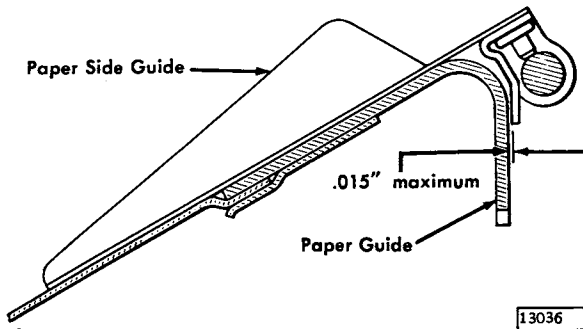

Figure 4-17. Paper Slide Guides
2. The movable paper guides, right and left, are formed at the factory for a 0.015" maximum clearance to the stationary paper guide (Figure 4-17). The movable paper guides must be free to slide.